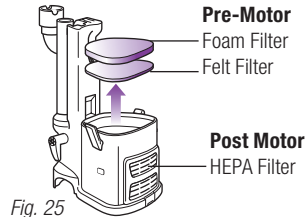

Fig. 25
- 2 Pull the 2 filters out from the top of the motor base. (Fig. 25)